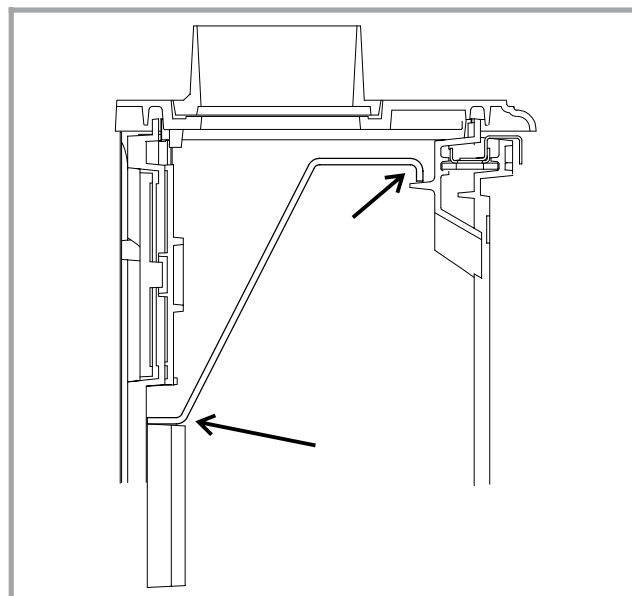

Figure 8 - Fitting the flue baffle
- Replace the internal baffle (fig. 8) and re-fit the cast iron top.
- Replace the internal baffle (fig. 8) and the cast iron top.